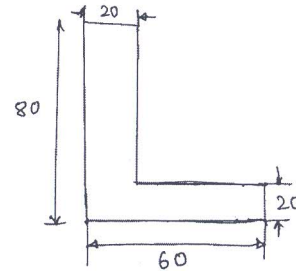

Fig.Q2(b)
b. Find the moment of inertia about centroidal axis Fig.Q2(b). (16 Marks)